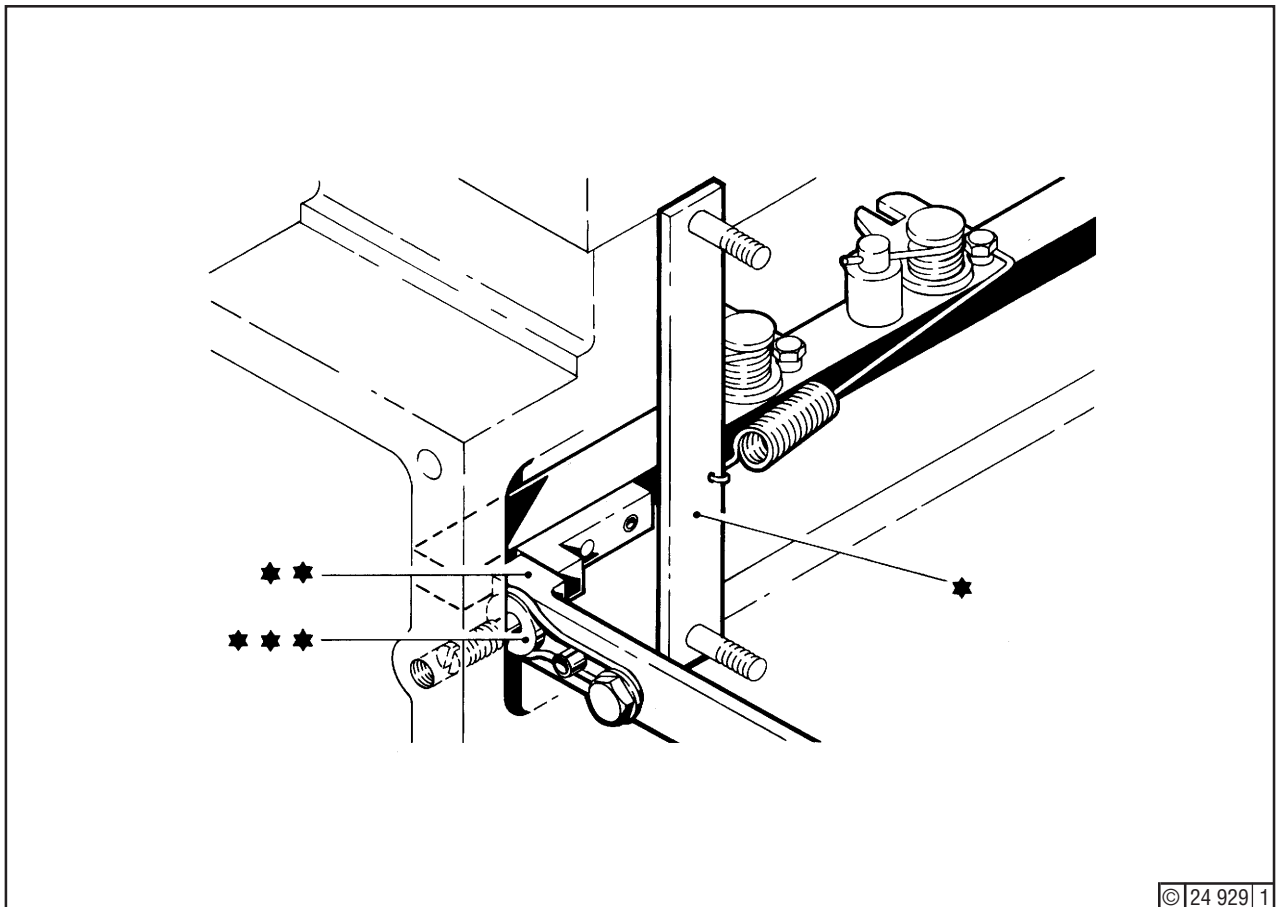
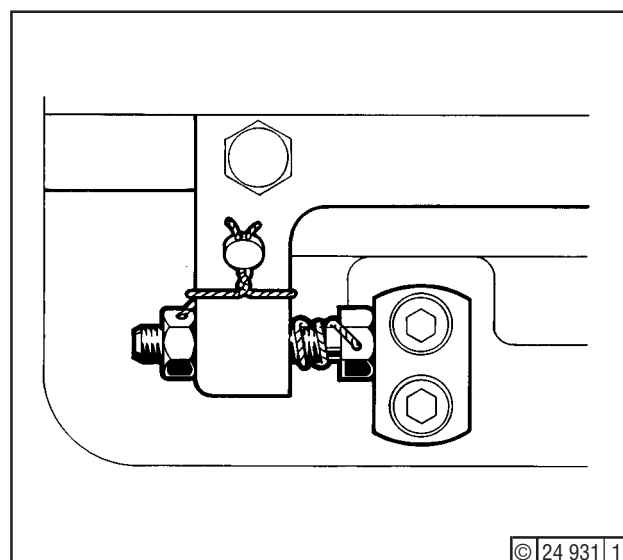
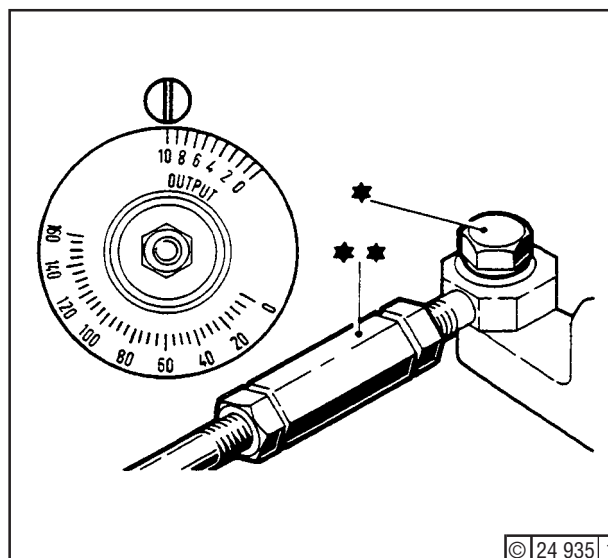

Fig. 7
Fig. 9
Fig. 13
5. Use tools (*) - Fig. 7 - to pull control rods of all injection pumps against the gauges (**) contacting check stops (***) at points A18 and A19.
Then, at the right-hand end of the link (*) (point A24), adjust the length of the link by means of the eccentric (**) so that the control rods contact the check stops without pressure, with the gauges inserted (see Fig. 7). Insert new cheese-head screws according to tightening specification, see "Specification Data", Section 3.5, line 60. If the setting at the right-hand eccentric is insufficient, rectify at the left-hand eccentric.
7. Remove tools (Fig. 7). Move linkage in the direction "Stop" until one or more stop screws abut at points C12 and C13 (Fig. 9).
10. Turn governor to graduation (10) - Fig. 13 - and secure link C1 to point A5 (*). Adjust length of link at point C5 (**) to ensure freedom from internal stressing. Remove tool from all injection pumps (see Fig. 7).